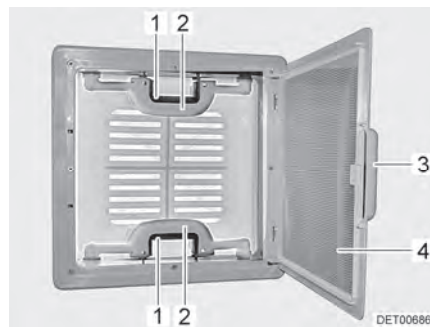

Fig. 48 Skylight with snap latch
- Pull on the handle (Fig. 48,3).
- Fold insect screen (Fig. 48,4) downward.
- Push the snap latch (Fig. 48,1) towards the inside of the skylight. At the same time use the handle (Fig. 48,2) to press the skylight upwards.
- Swing insect screen (Fig. 48,4) upwards until it latches in place.
- Using both handles (Fig. 48,2), pull down the skylight with force until the two snap latches (Fig. 48,1) lock into place.